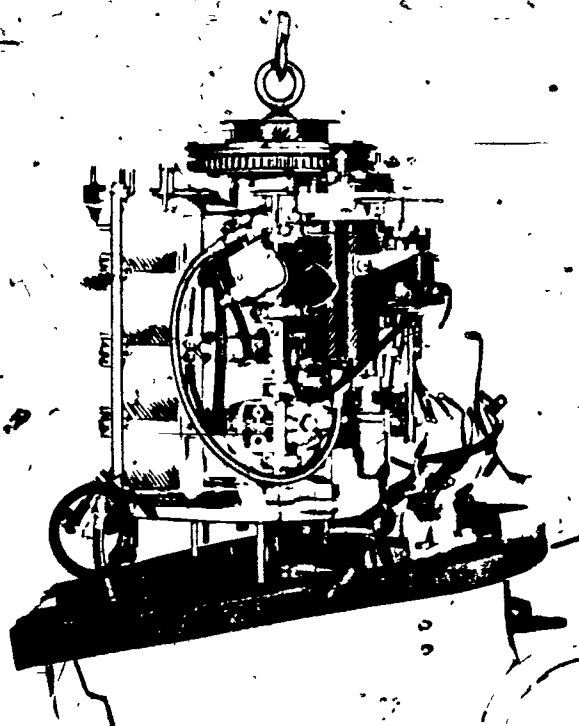

FIGURE 2
16. Lift powerhead and place on powerhead stand (Figure 2)